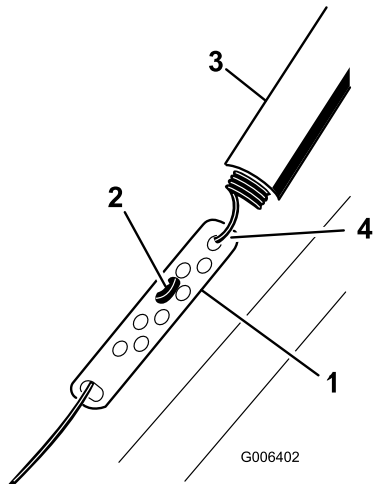

Figure 9
1. Slide up the spring cover and unhook the spring from the adjuster link (Figure 9).
2. Move the Z-fitting to a higher or lower hole on the adjuster link as needed to obtain the 2 to 3 mm (1/16 to 1/8 inch) gap between the control bar and the handle (Figure 9).